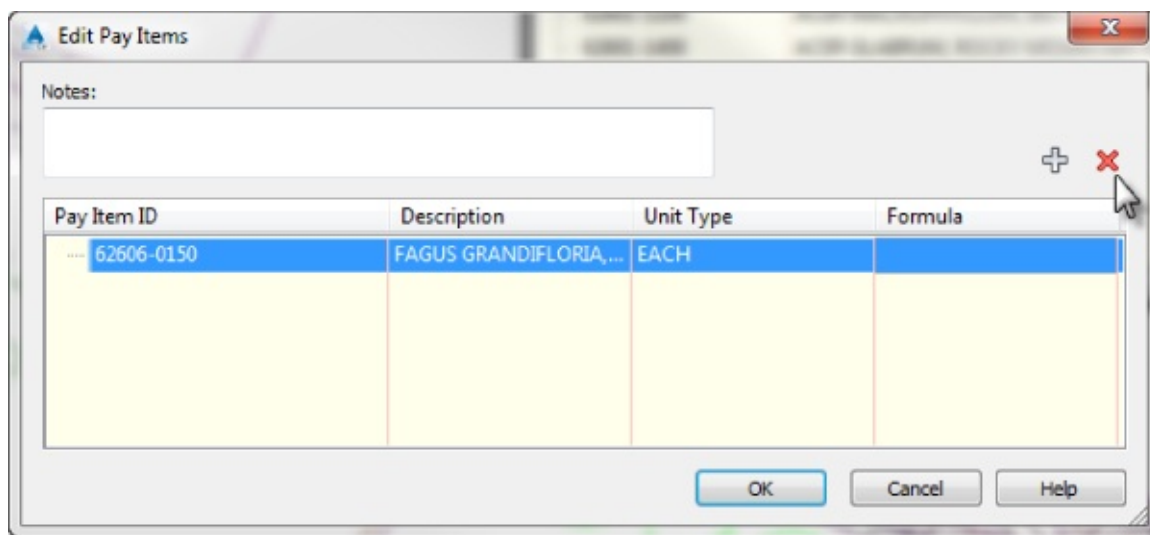

Figure 17.20 Editing pay item assignments: deleting the tree pay item
17. Select the FAGUS GRANDIFLORIA row, and then click the red X in the upper right to remove this pay item from the tree, as shown in Figure 17.20.